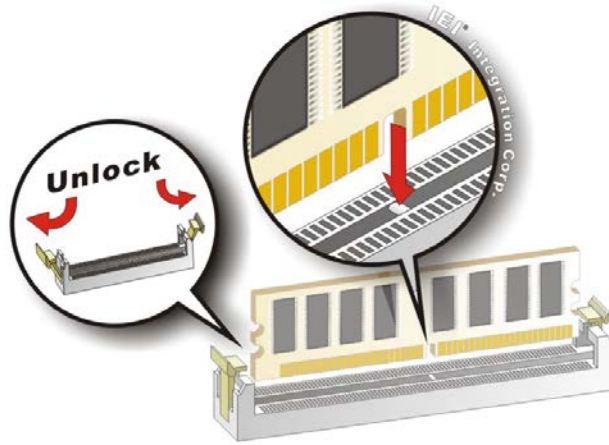

Figure 3-7: DIMM Installation
To install a DIMM, please follow the steps below and refer to **Figure 3-7**.
Step 3: Open the two handles outwards as far as they can. See **Figure 3-7**.
Step 4: Align the DIMM so the notch on the memory lines up with the notch on the memory socket. See **Figure 3-7**.
- Step 5:** Once aligned, press down until the DIMM is properly seated. Clip the two handles into place. See **Figure 3-7**.